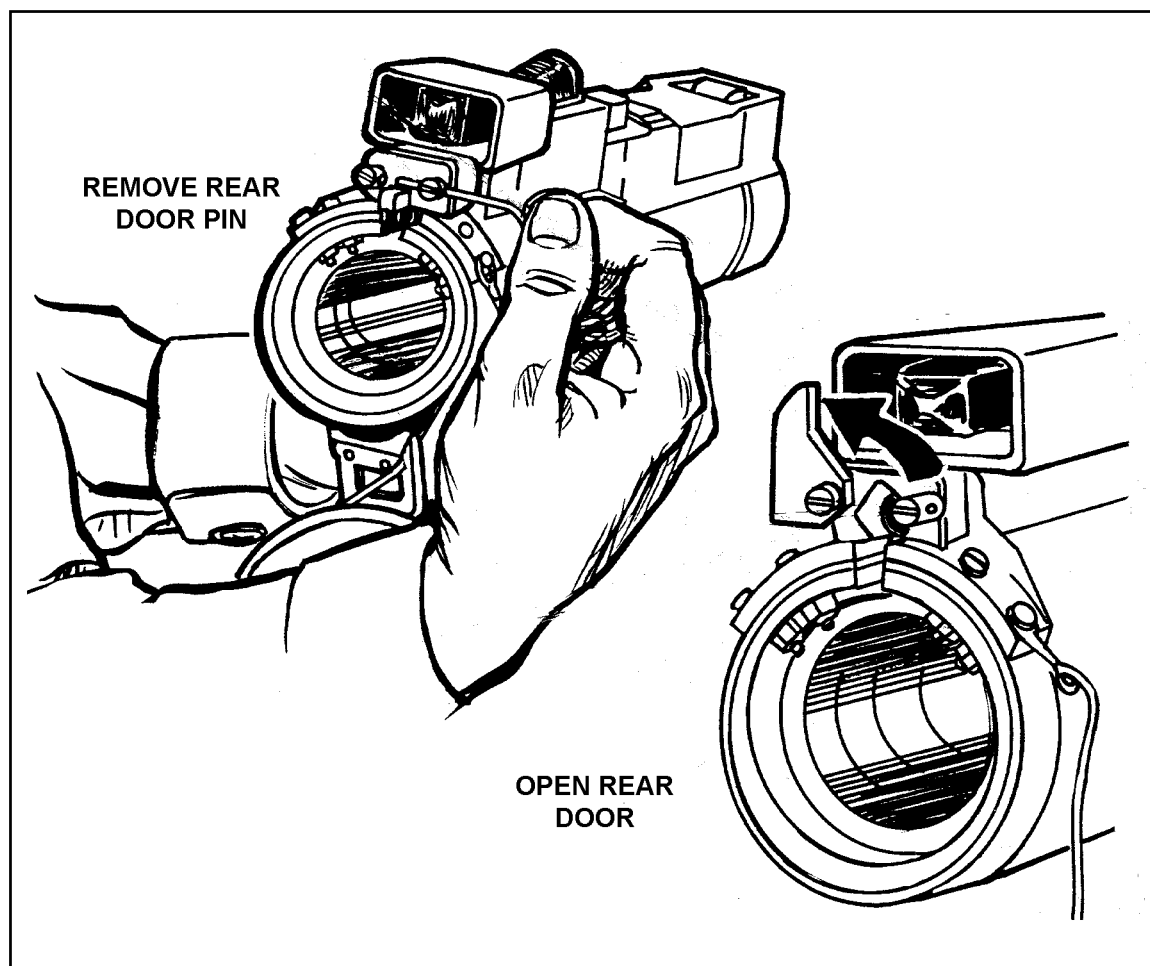

Figure B-3. Loading the LAW subcaliber launcher.
- e. **Loading.** To load the M73 rocket into the M190 launcher (Figure B-3)—
- (1) Twist and remove the primer housing lockpin and open the primer housing door.
- (2) Remove the fired primer block (if present) from the primer block cavity of the launcher.
- (3) Inspect the primer block cavity for obstructions such as primer case stuck on the firing pin.
- (4) Pivot and remove the safety clip from the rocket.
- (5) Insert the M73 rocket into the launcher with the primer face up and toward the firing pin housing.
- (6) Guide the primer block into the primer block cavity with the primer toward the front of the launcher. Close the primer housing door, insert the lockpin across the primer housing door, and twist to ensure a spring-tight fit. Ensure the primer housing door fits snugly.